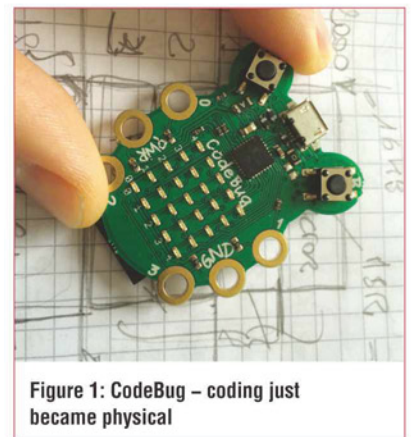

Figure 1: CodeBug – coding just became physical
So it won’t be a surprise if I write that, whilst amazed by the new record low reached by what is, after all, just another personal computer (PC), I won’t be buying one this Christmas – sorry! I have instead already purchased a CodeBug to put under the tree for my son. It does not run Linux, and instead of an HDMI display port it features a 5 x 5-matrix LED display, which I find a plus and it looks like much more fun; see Figure 1.